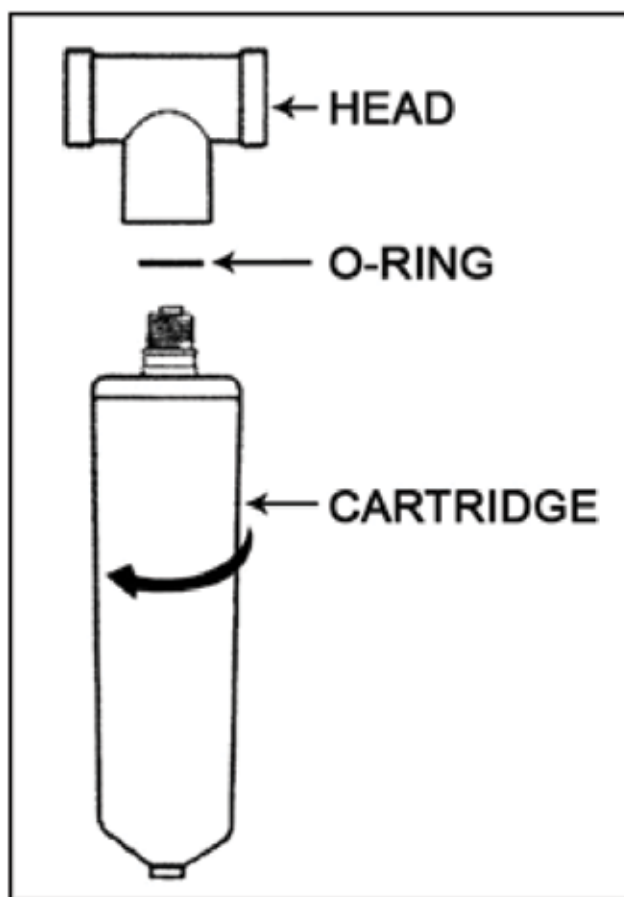

Figure 4
2. It is recommended that cartridges be replaced regularly, at no more than six-month intervals, to be assured of optimum performance. See "Figure 4".